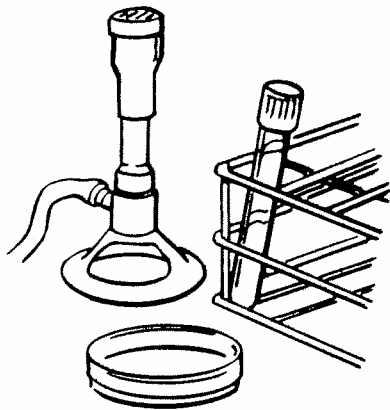

FIGURE 9-1
1. Assemble the materials you will need as in Figure 9-1.